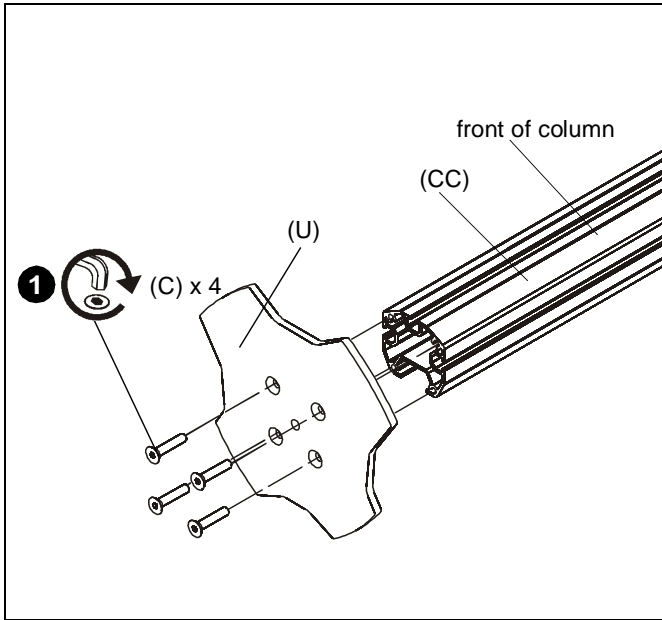

Figure 1
1. Use four 1/4-20 x 1 1/4" flat head cap screws (C) to secure grommet plate (U) to column (CC). Make sure longer legs of grommet plate are aligned with the front of column. (See Figure 1)